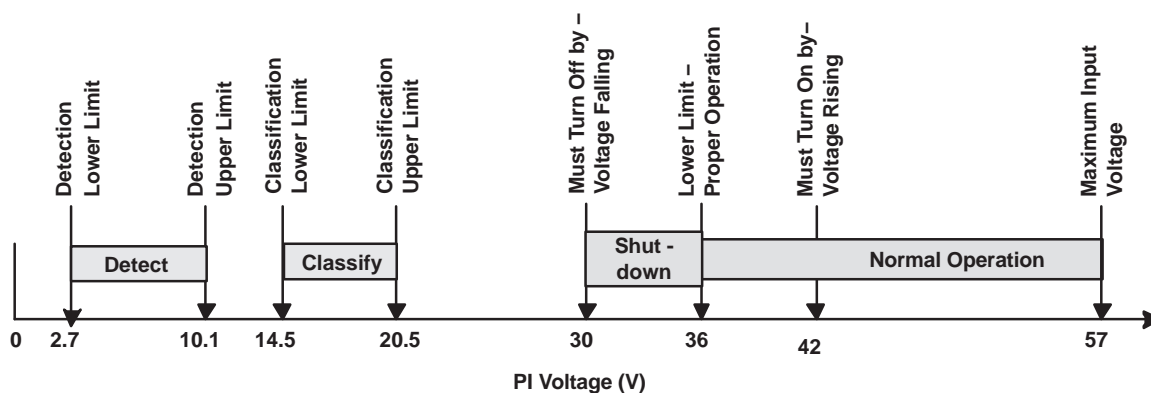
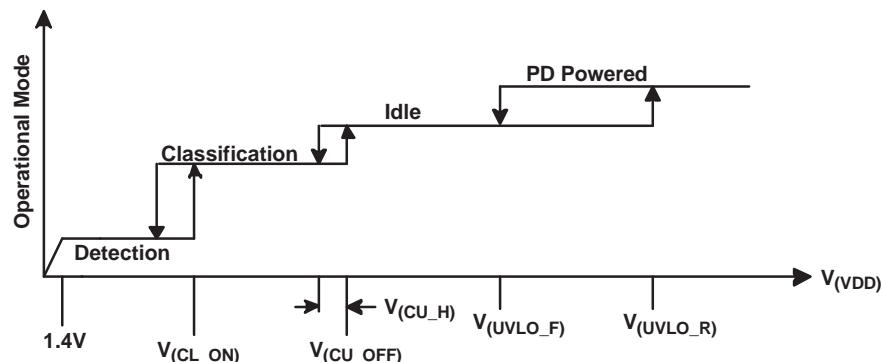

Figure 12. IEEE 802.3 PD Voltage Limits
Figure 13. Threshold Voltages
The IEEE 802.3af specification defines a process for safely providing power over an ethernet cable when a capable device is connected, and then removing power if it is disconnected. The process proceeds through three operational states: detection, classification, and operation. An unterminated cable is not powered. The PSE periodically probes the cable with low voltage, looking for a 25 kΩ signature; this is referred to as detection. The low power levels used during detection are unlikely to cause damage to devices not designed for PoE. If a valid powered device (PD) signature is present during detection, then the PSE may optionally inquire about the amount of power the PD requires; this is referred to as classification. The PD may return a default full-power signature, or one of four other defined choices. In a high-power system, class may not be required, or the levels may be redefined to suit that particular system. The PSE may use the class power to determine if it has adequate power to operate this device, and later to determine if a device is using more power than it requested. At this point in the process, the PSE may choose to power the PD. The PSE output is protected against shorts and overloads when the PD is powered. The maintain power signature (MPS) is presented by the powered PD to assure the PSE that it is present. The MPS is either a minimum dc current, a maximum ac impedance, or both. When the MPS disappears, the PSE removes power and returns to its initial state. Figure 12 shows the operational states as a function of PD input voltage range as defined in IEEE 802.3af.
In order to implement the defined PoE functions shown in Figure 12, the TPS2376-H has a number of internal comparators with hysteresis for stable switching between the various states. Figure 13 relates the parameters in the Electrical Characteristics section to the PoE states. The mode labeled *idle* between classification and PD powered implies that the DET, CLASS, PG, and RTN pins are all high impedance.
The classification process applies a voltage between 14.5 V and 20.5 V, for a maximum of 75 ms, to the input of the PD, which in turn draws a fixed current set by $R_{(CLASS)}$. An 802.3af PSE measures the PD current to determine which of the five available classes (Table 1) that the PD is signaling. The total current drawn from the PSE during classification is the sum of bias currents and current through $R_{(CLASS)}$. The TPS2376-H disconnects $R_{(CLASS)}$ at voltages above the classification range to avoid excessive power dissipation (Figure 12 and Figure 13).
The TPS2376-H incorporates an undervoltage lockout (UVLO) circuit that monitors line voltage to determine when to apply power to the downstream load and allow the PD to power up. The IEEE 802.3af specification dictates a maximum PD turn on voltage of 42 V and a minimum turn-off voltage of 30 V (Figure 13). The UVLO pin provides the flexibility to adjust the turn on and turn off to the IEEE 802.3af limits, or a custom set. Design the turn-on for 39.5 V if a design which uses the IEEE 802.3af limits is desired.